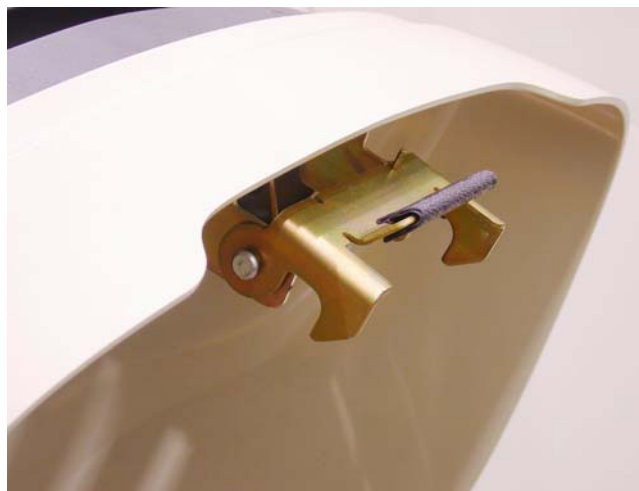

Figure 2.6
- 2.6. A new spring-loaded latch was added to hold the hood closed. See Figure 2.6.